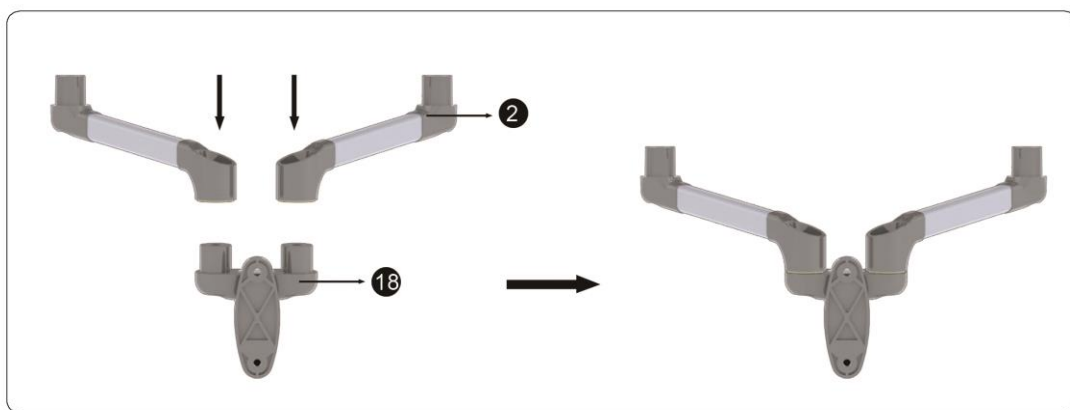

Figure 3-1
1. Install the Extension Arms (2) onto the DEK (18) (See Figure 3-1).